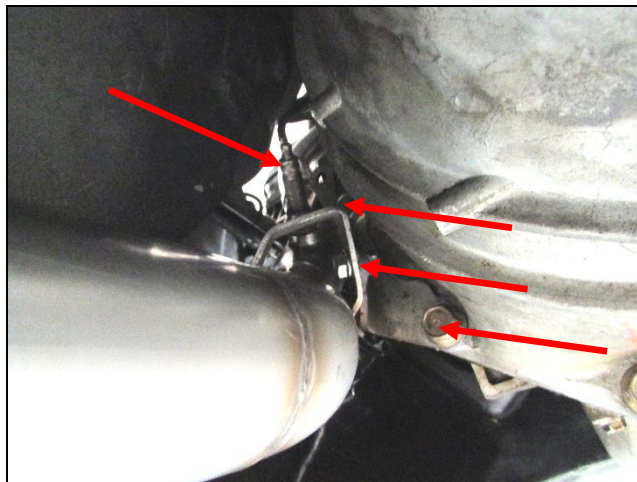

Figure 9
3. From under the vehicle, install the O2 sensor and OE bellhousing bracket using the supplied (x1) bolt and reuse (x2) OE bellhousing bolts (**Figure 9**).